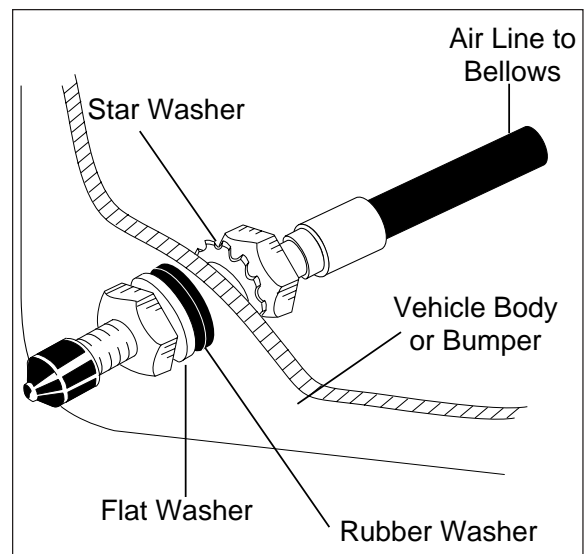

Figure 6
- Use a standard tube cutter, a razor blade, or very sharp knife to cut the air line in two equal lengths. A clean square cut will ensure against leaks. Drill $\frac{5}{16}$ " hole for inflation valve and mount as illustrated. The rubber washer on outside is for weather seal (Figure 6).